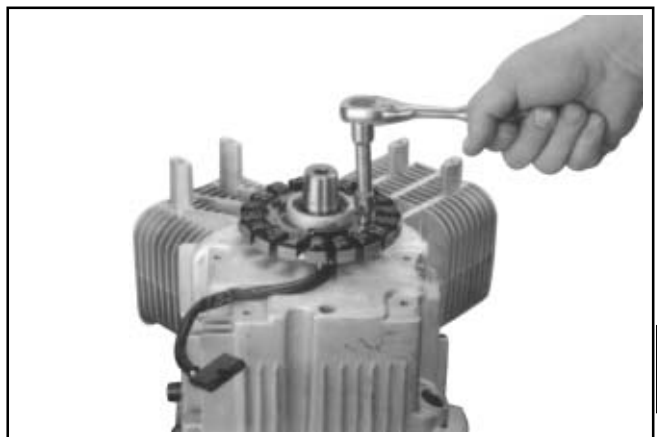

Figure 9-48. Removing Stator.
2. Remove the two hex. flange screws and the stator. See Figure 9-48. Note the position/routing of the stator lead.